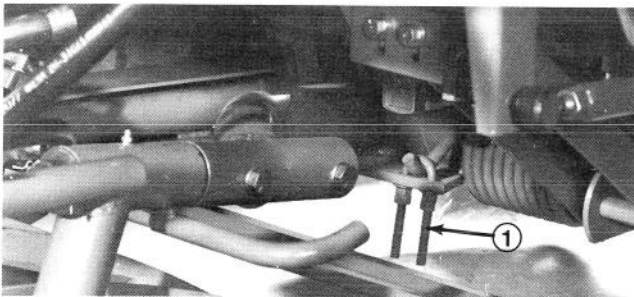

Figure 29
1. Loosen the two (2) nuts securing the two (2) flange locknuts to the U-bolt (Fig. 29).